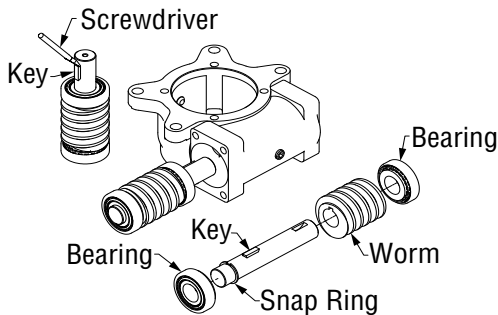

Figure 5-12, Input Shaft
10. Remove the input shaft assembly. The assembly fits tightly, so use a rubber mallet or press on the extended shaft to remove it. Remove the exposed key with a screwdriver, allowing the bearing and worm to slide off of the shaft. (Figure 5-12)